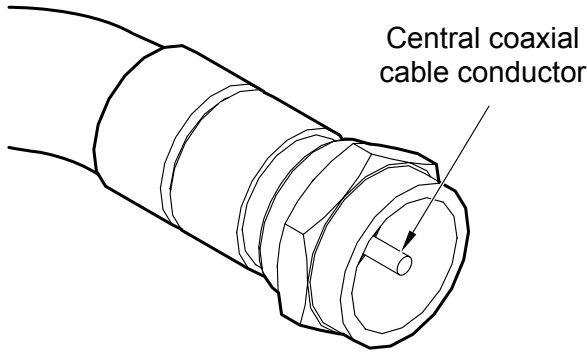

**Fig. 14**
- Should it be necessary to shorten the cable, please refer to the instructions given in Fig. 14.